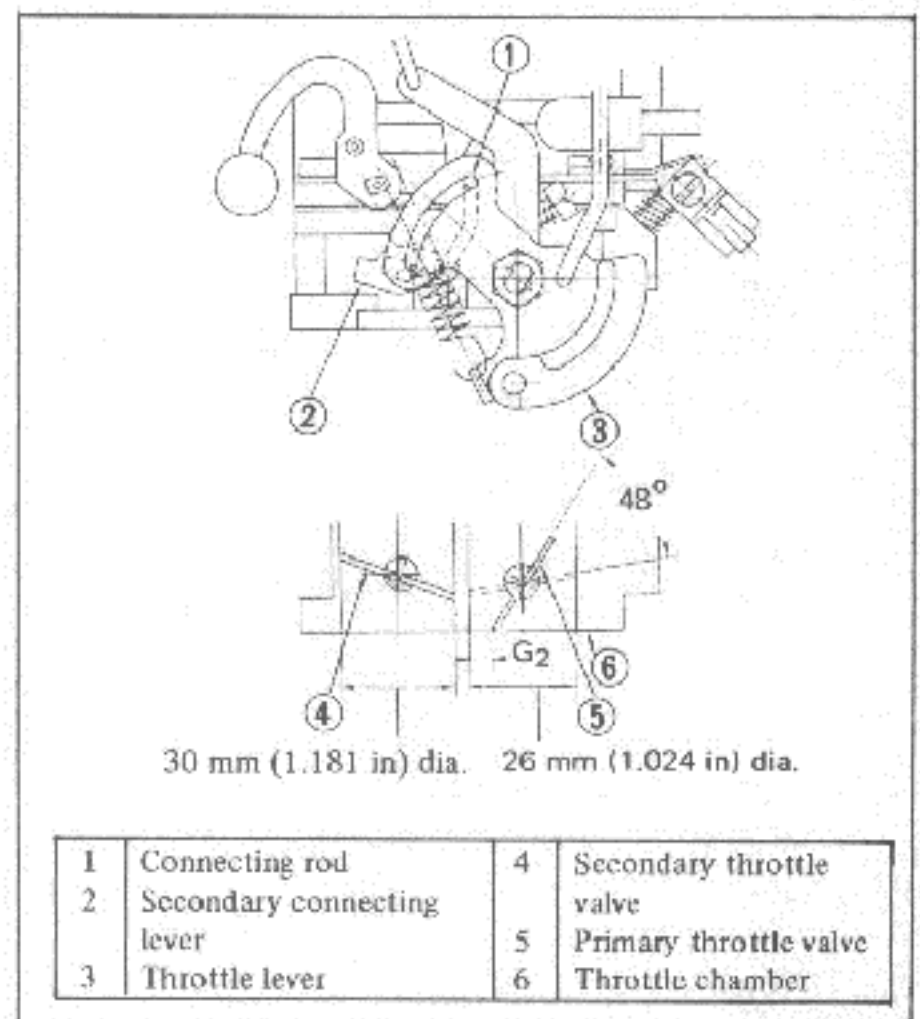

Fig. EF-19 Adjusting interlock opening (primary and secondary throttle valves)
- a. Open the primary side throttle valve 48° from the fully closed position, and measure clearance between the throttle valve and throttle chamber inside wall as shown in Figure EF-19.
- b. Make sure that the throttle valve shaft ring is in relative position with the primary side throttle lever as shown in the Figure EF-19, and measure "G2" size. The condition is normal if the "G2" size is 5.83 mm (0.2295 in). When adjustment is required, bend the connecting rod properly so that the secondary side throttle valve stops immediately before it completes the opening. Upon completion of the adjustment, make sure that the link system operates smoothly.